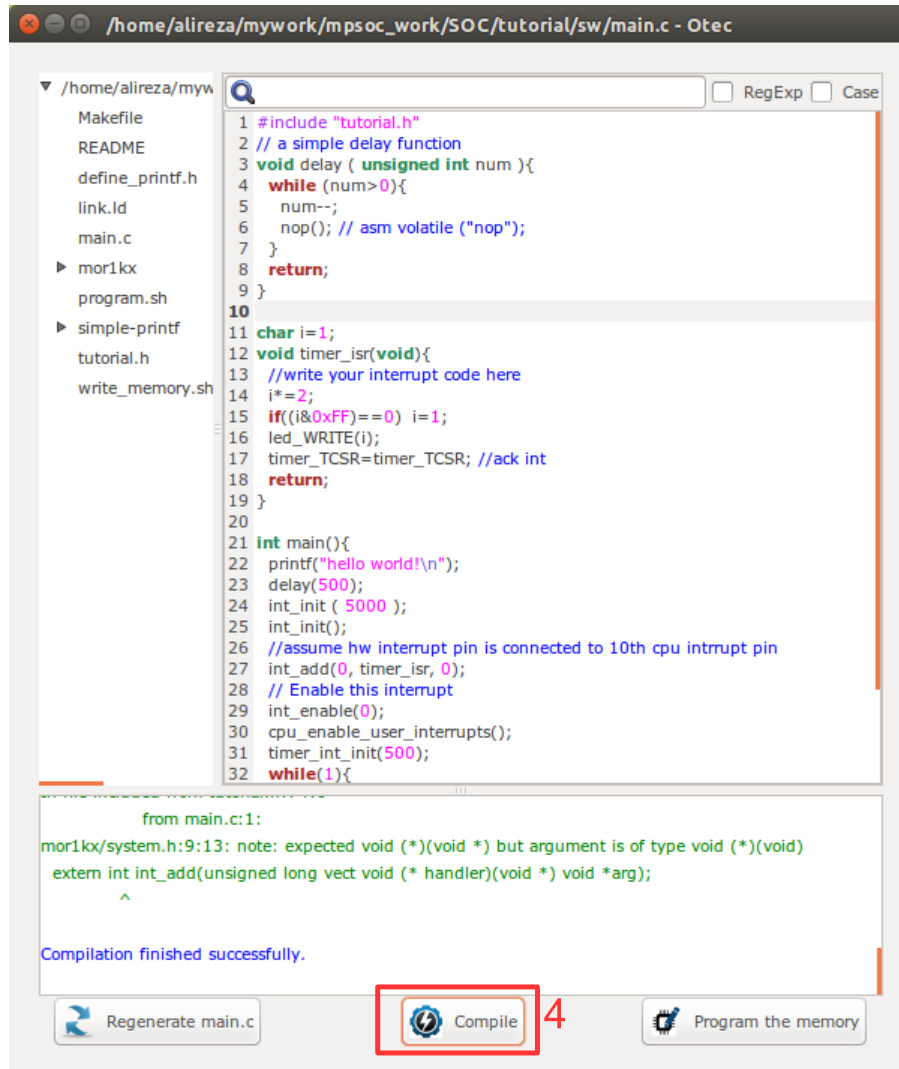

Figure 5.15: Compile the software code.
- Now press the  Compile button. This will compile the C code using Mor1kx GNU toolchain. If everything runs ok, you must see "compilation finished successfully" message as shown in Figure 5.15. Otherwise, check the error message to fix your code and press the compile button again. If every thing runs successfully you must have ram0.bin, ram0.hex, and ram0.mif files in your sw/RAM directory.